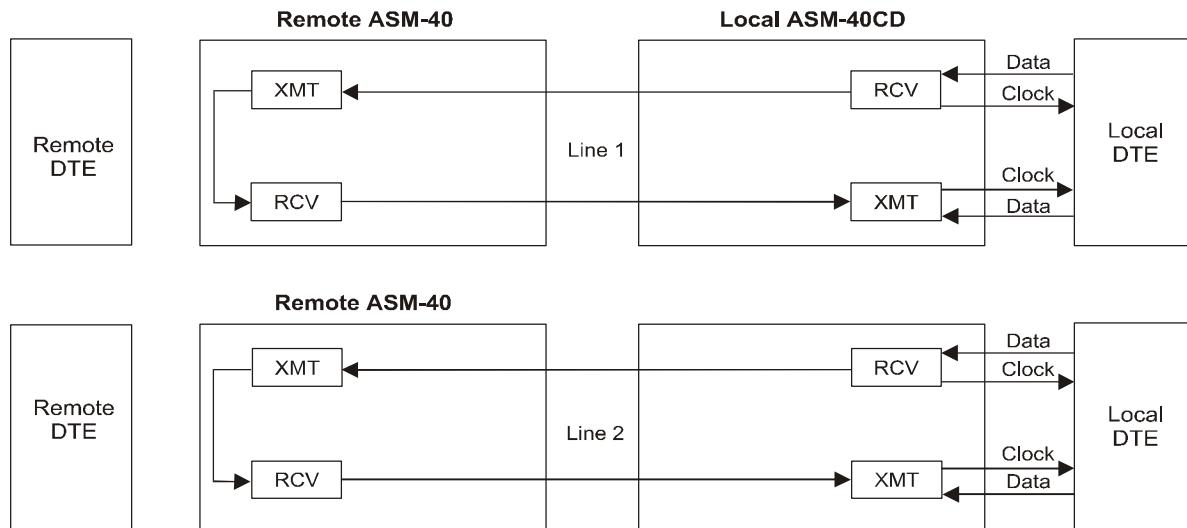

Figure 4-2. ASM-40CD Remote Digital Loopback (RLB)
- **Remote digital loopback** – The digital receive signal is looped back in the remote ASM-40 towards the line. The loopback tests the local ASM-40CD, the remote ASM-40 and the line between them. The loopback is set from the local ASM-40CD or from the local DTE via the RLB control line (see *Figure 4-2*).